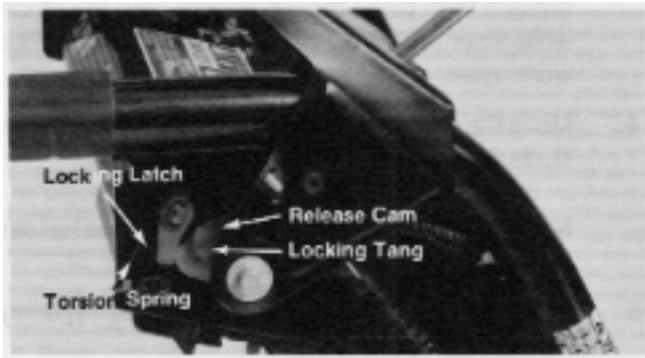

Figure 113
6. Insert the end of the impeller cable into the locking tang and install in the impeller lever as shown in Figure 113. Secure with the small self-tapping screw.
10. If the locking latch and the locking latch spring were removed, install now. Secure with the E clip. Refer to Figure 113 above.